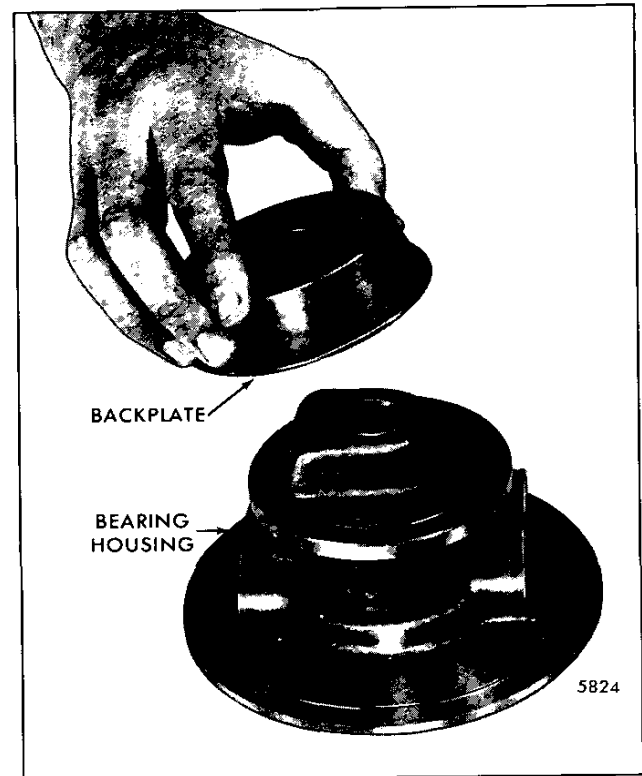

Fig. 14 - Assembling Bearing Housing, Gasket and Backplate
3. Position the bearing housing, turbine end up (Fig. 14). Then install a new gasket and the turbine backplate.